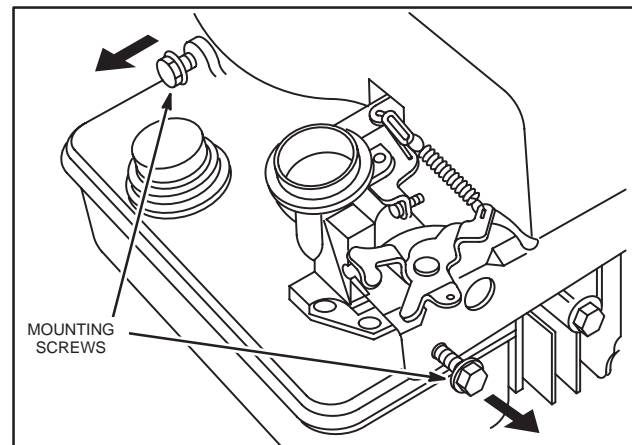

Fig. 142 – REMOVING MOUNTING SCREWS
1. Remove carburetor and fuel tank assembly mounting bolts, Fig. 142.